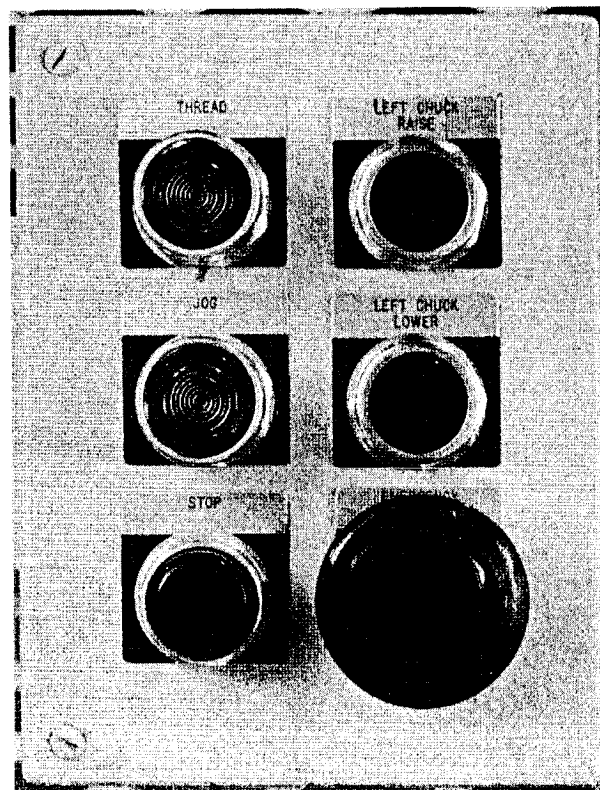

FIG. 4
- 5.6 CONTROL STATION (R512) PUSHBUTTON CONTROLS (SEE Fig. 4)